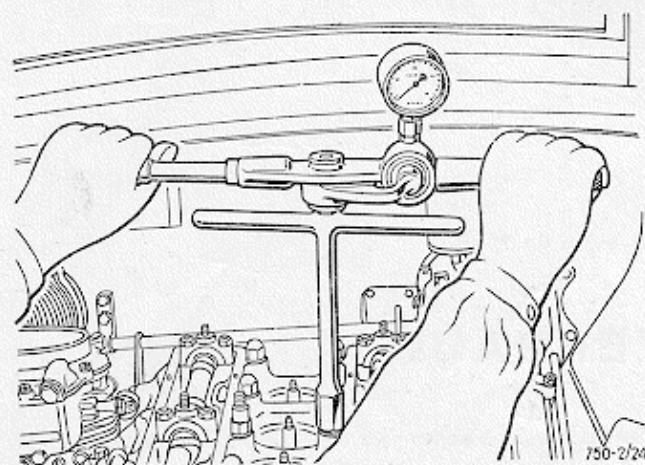
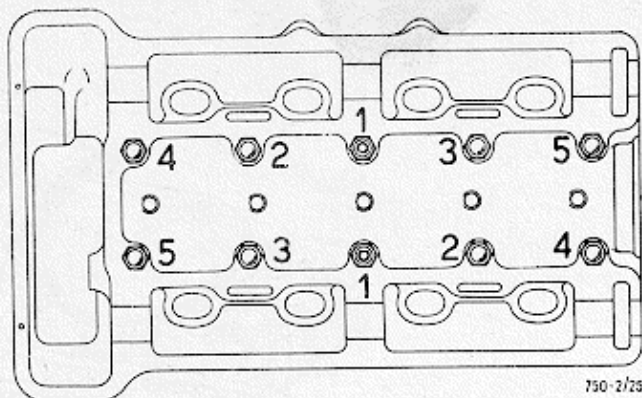

Fig. 24 - Checking the torque for tightening the nuts of the cylinder-head
Fig. 25 - Locking order of the cylinder-head nuts
a) **Ensure that the cylinder-head and inlet manifold nuts are tight.** Work on the engine when hot, and use a torque wrench as shown in fig. 24. The torque load for the cylinder-head nuts is from 6 to 6.5 kgm. The nuts should be tightened in the order shown in fig. 25.